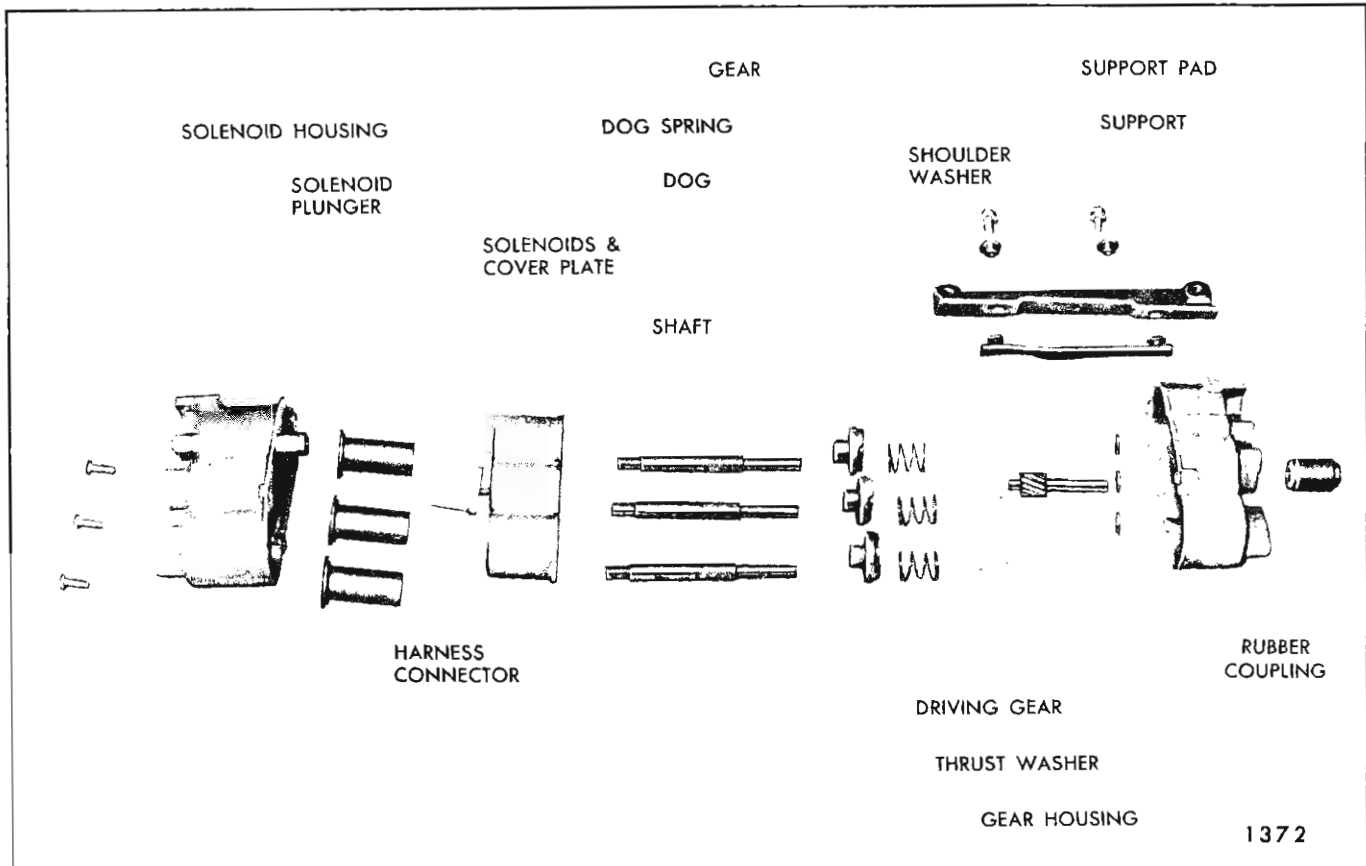

Fig. 1H15—Six-Way Seat Adjuster Transmission
2. Disconnect motor feed wires from motor control relay (Fig. 1H11).
5. To install, reverse removal procedure making sure rubber coupling is properly engaged at both motor and transmission. Check that seat harness is properly secured to seat (Fig. 1H11).
cables are installed to proper gearnuts and horizontal actuator as shown in Figure 1H10.
2. Disconnect wire harness connector from transmission. (See Fig. 1H11).